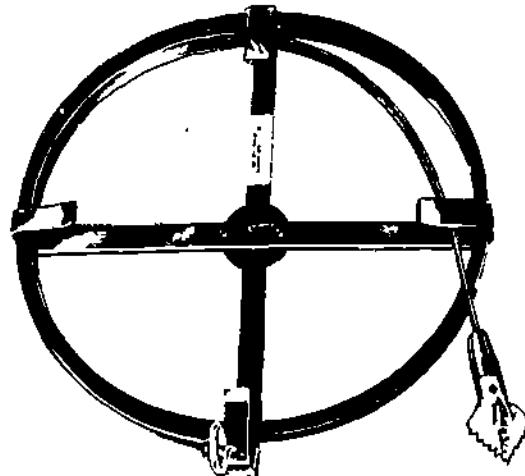

Figure 23-25. Flat-Steel Sewer Tape
75. The one-piece flat-steel sewer tape shown in Figure 23-25 has been used by plumbers for many years. It is available in widths from 6 mm through 32 mm, and in lengths ranging from 7.6 m to 30 m. Some types of tapes may be joined by a coupler, and the manufacturers claim they can be used manually for clearing lines up to 90 m.